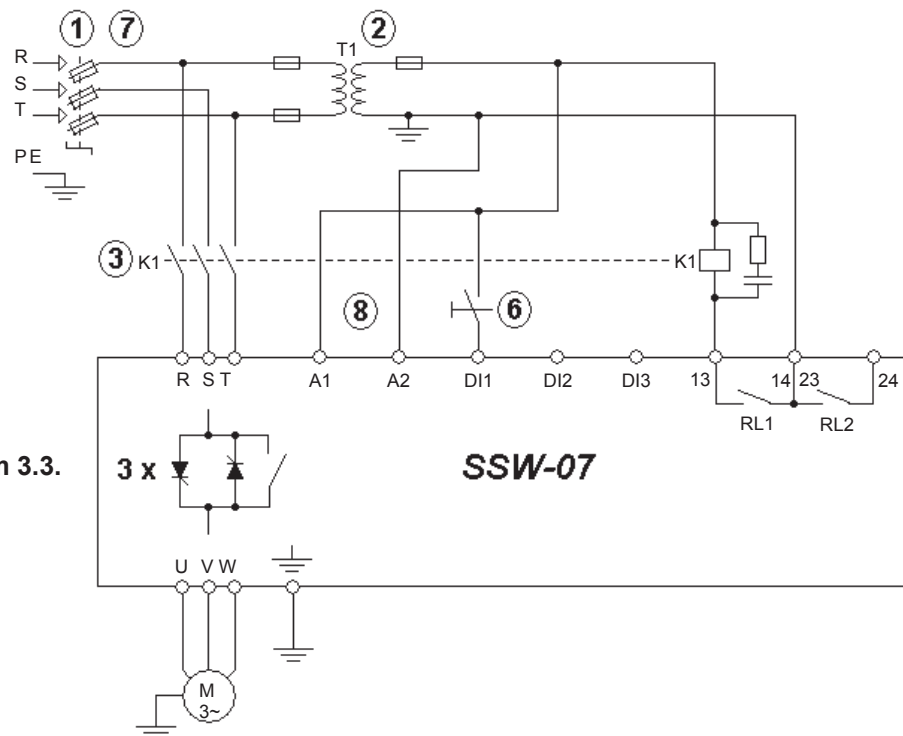

Figure 3.10 - Recommended set-up with commands via two-wire digital inputs and isolation contactor
- 3.2.4.3 Recommended Contactors When the SSW-07 is used in applications that require an isolator contactor, according to the figure 3.10 (K1), the use of WEG contactors is recommended.